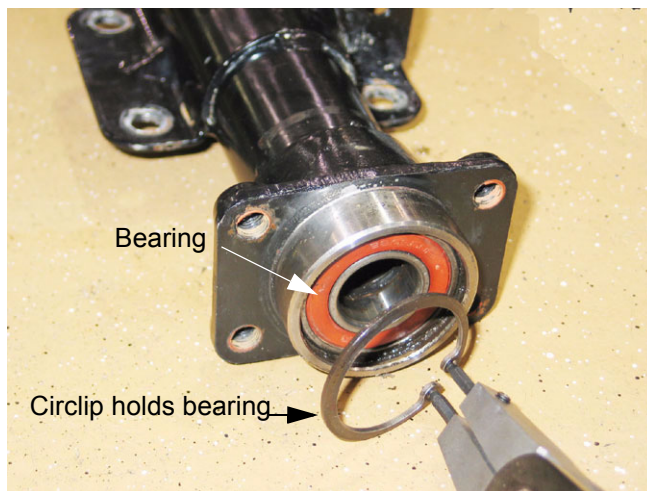

Figure 9.17
- 9.17. To take apart the axle assemblies, remove the circlip that holds the sealed bearing in the end of each axle tube. See Figure 9.17.